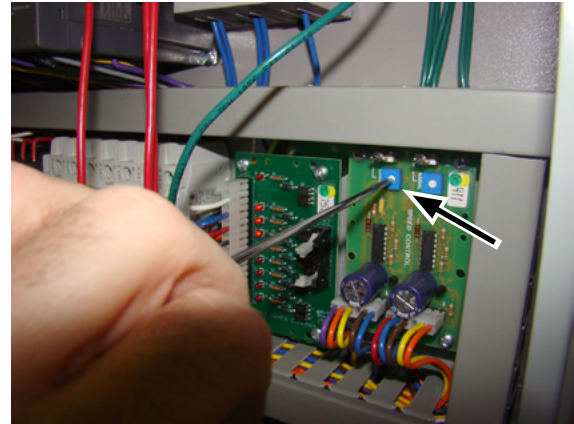

Figure 7-21: Be sure to use an appropriately sized screwdriver to adjust the potentiometer.
12. Using a small screwdriver, turn the potentiometer (Figure 7-21) to the appropriate setting. Do not force it: